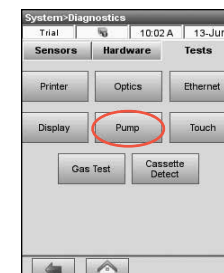

Figure 4: System Manager > Diagnostics > Tests > Pump
2. Tap **Pump** (Figure 4) to test the pump motor. The pump should run smoothly without excessive noise. This diagnostic test automatically steps through all the speeds used during normal operation (7.5–120 rpm) and then returns to the Diagnostics > Tests tab.